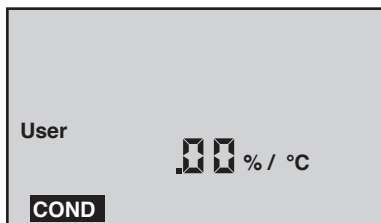

Figure 3
- b. With "User" selected, press $\frac{\text{CAL}}{\text{MCLR}}$. If the display does not show .00%/°C, hold $\frac{\text{MR}}{\blacktriangledown}$ long enough to bring the tempco to .00%/°C (see Figure 3).